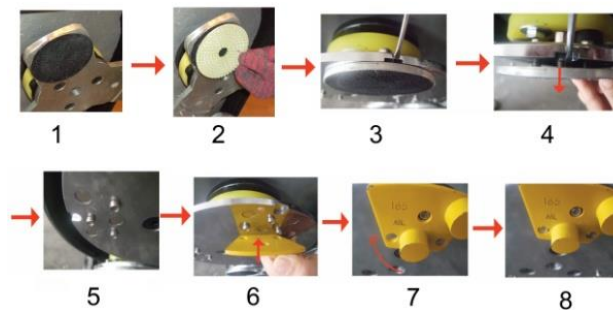

Figure 1
- 3) Change the diamond tools or resin pads as shown in "Figure 1".